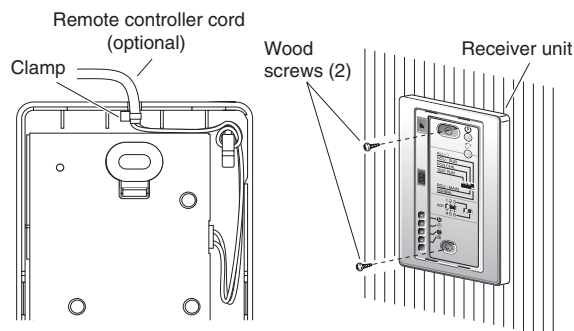

Fig. 3-25
4. Fasten the remote controller cord (optional) at the position shown in Fig. 3-25, using the provided clamp. Then connect the cord to the receiver connector.
5. Shape the remote controller cord as shown in Fig. 3-25 so that it fits at the top inside the receiver unit, above the PCB. Then attach the lower case. At this time, bend the head of the clamp so that it faces sideways.